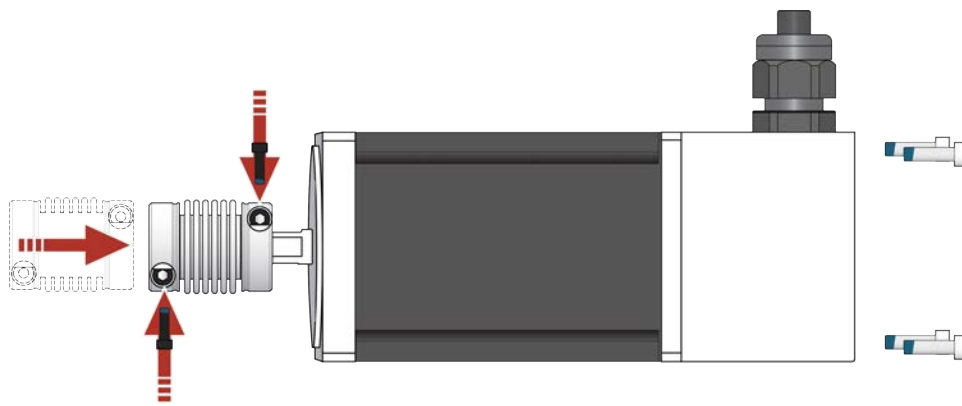

**Figure 4-3: Motor Mounting Overview**
**IMPORTANT:** Use Loctite 242 or Loctite 248 on the motor and coupling adapter hardware (Figure 4-3). Loctite products are printed with an expiration date. Before use, be sure that the expiration date is legible and the product has not expired.
2. Locate the Shaft Coupling access holes (refer to Figure 4-3).